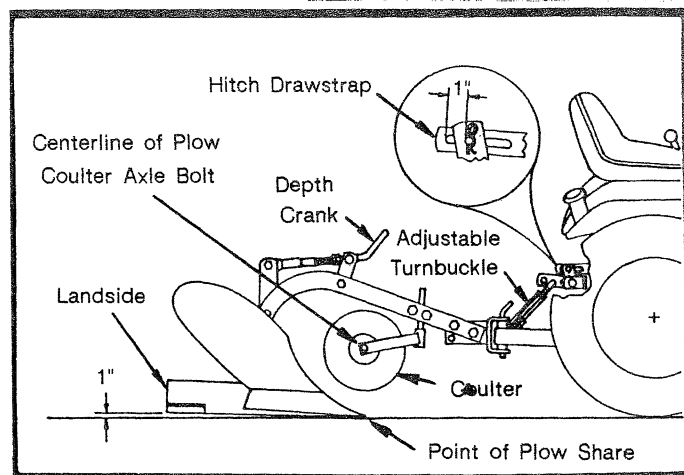

FIG. 5
PREADJUSTMENT (Refer to Fig. 5 and 6)
- Adjust the Depth Crank of Plow until Point of Plow Share is approximately 1" off the ground. (Refer to Figure 5)